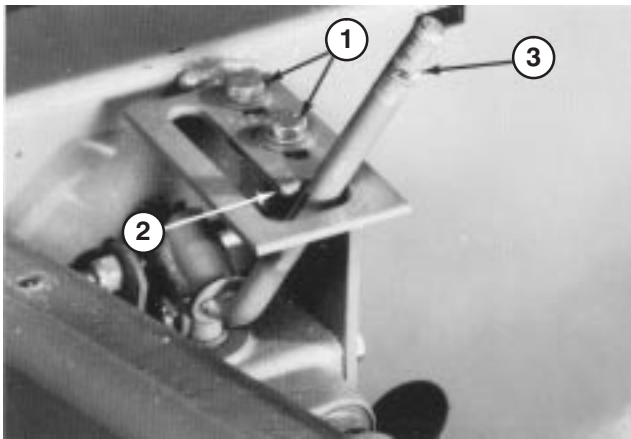

Figure 51
3. Loosen two capscrews on top of the lift lever latch (Fig. 51). Place lever on rounded tip of latch (Fig. 51), and slide latch w/lever forward until stopping resistance is felt. Then tighten capscrews to lock the latch in place. Check for free operation of the lift lever by moving lever from RAISE or TRANSPORT to FLOAT position. Lift lever should just clear rounded position of latch as lever is moved into FLOAT position.